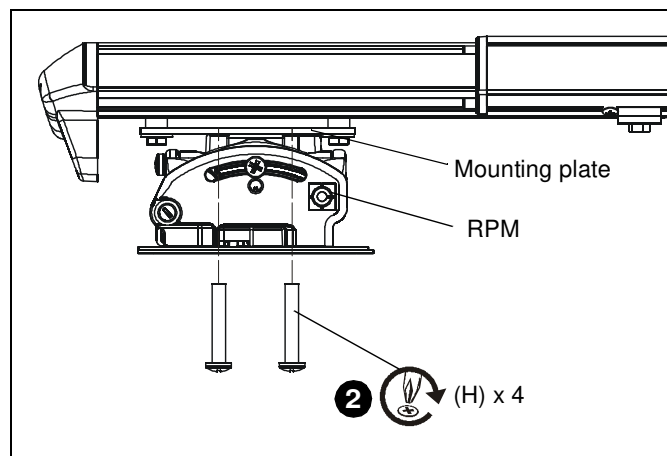

**Figure 17**
**NOTE:** Determine hole configuration to use for each specific projector mount. (See Figure 17)
1. Line up mounting holes on RPM mount with corresponding holes on projector mounting plate. (See Figure 17)
1. Line up mounting holes on RSM mount (X) with corresponding holes on projector mounting plate. (See Figure 17)
1. Line up mounting holes on RPA mount with corresponding holes on projector mounting plate. (See Figure 17)
1. Line up mounting holes on RSA mount with corresponding holes on projector mounting plate. (See Figure 17)